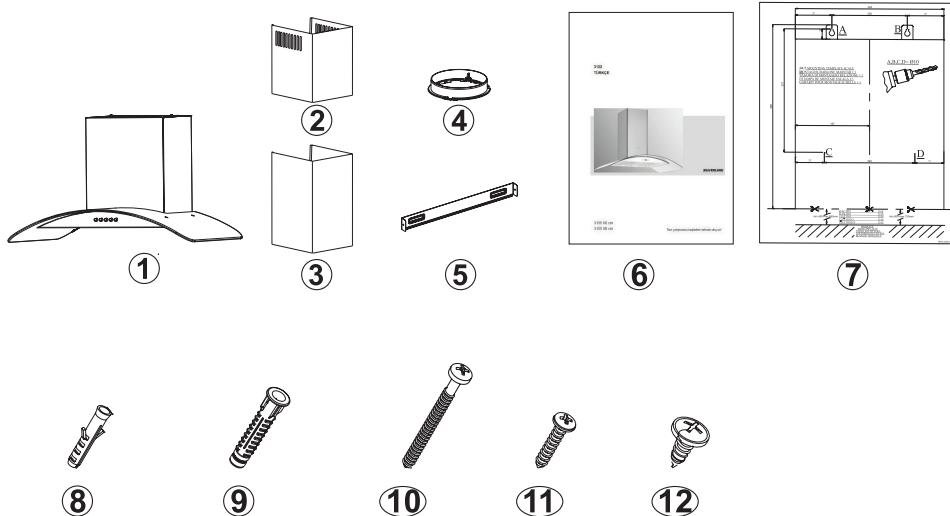

Fig. 8: CONTENT OF PACKAGE
- Assemble the cooker hood with the help of the assembly scheme. (Fig. 8 / 7)